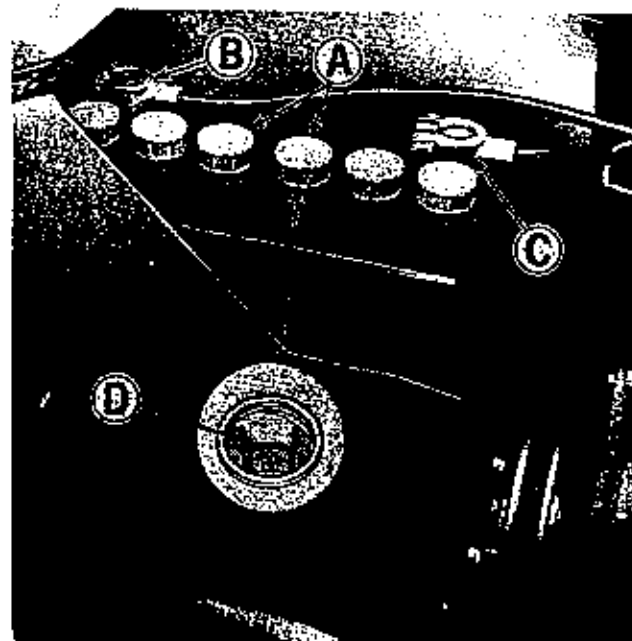

Figure 32. Tractor battery visible when hood is raised.
CHECK BATTERY WATER LEVEL: See figure 32. Every 25 hours, or more often when operating the tractor in temperatures above 72°F, remove the 6 battery caps (A) and check the water level in each cell. When the battery is in use, water evaporates from it. Never allow the water level in the battery to get below the top of the plates. Fill the battery to marking ring (D) with distilled water as shown in figure 32. If distilled water is not available, clean tap water may be used.
CLEAN BATTERY CABLES: See figure 32. Every 100 hours or once a year the battery cables (B) and (C) should be removed and cleaned. **CAUTION: ALWAYS REMOVE THE NEGATIVE "GROUND CABLE" (C) FIRST AND REPLACE IT LAST.** Clean the battery with soap and water to remove all dirt, oil and corrosion from the battery surface. Do not allow foreign material or cleaning solution to get inside the battery. Clean the terminals and battery clamps with a wire brush. Replace and tighten securely. After tightening coat the terminals and clamps liberally with a coat of grease or vaseline to inhibit corrosion.